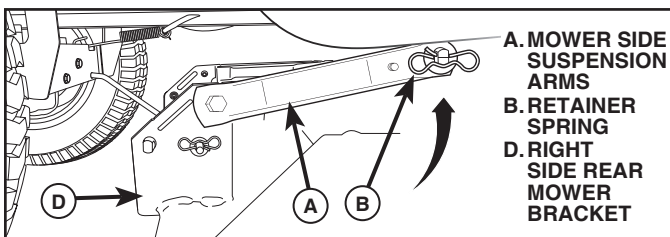

Fig. 12
6. ATTACH MOWER SIDE SUSPENSION ARMS (A) TO CHASSIS (See Fig. 12)
- Position front hole in side suspension arm (A) over pin on outside of tractor chassis and secure with large washer and large retainer spring (B).